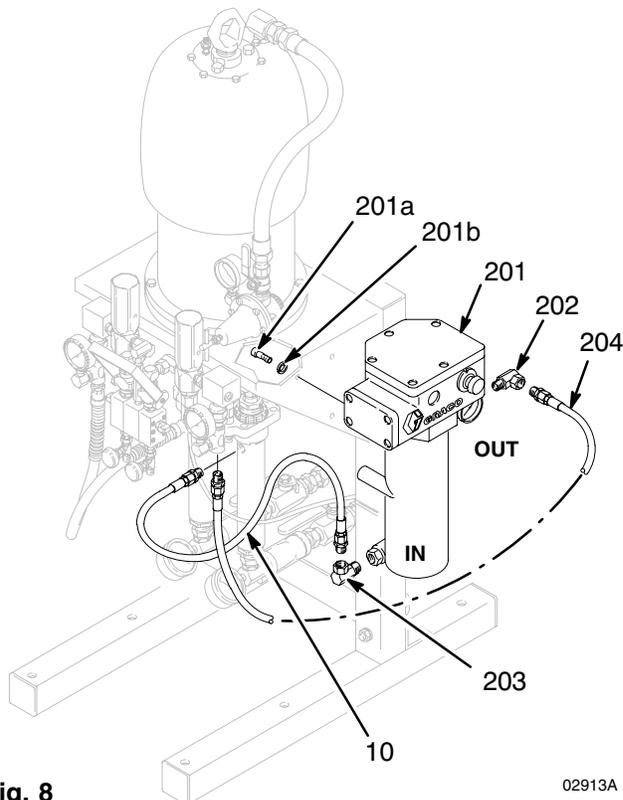
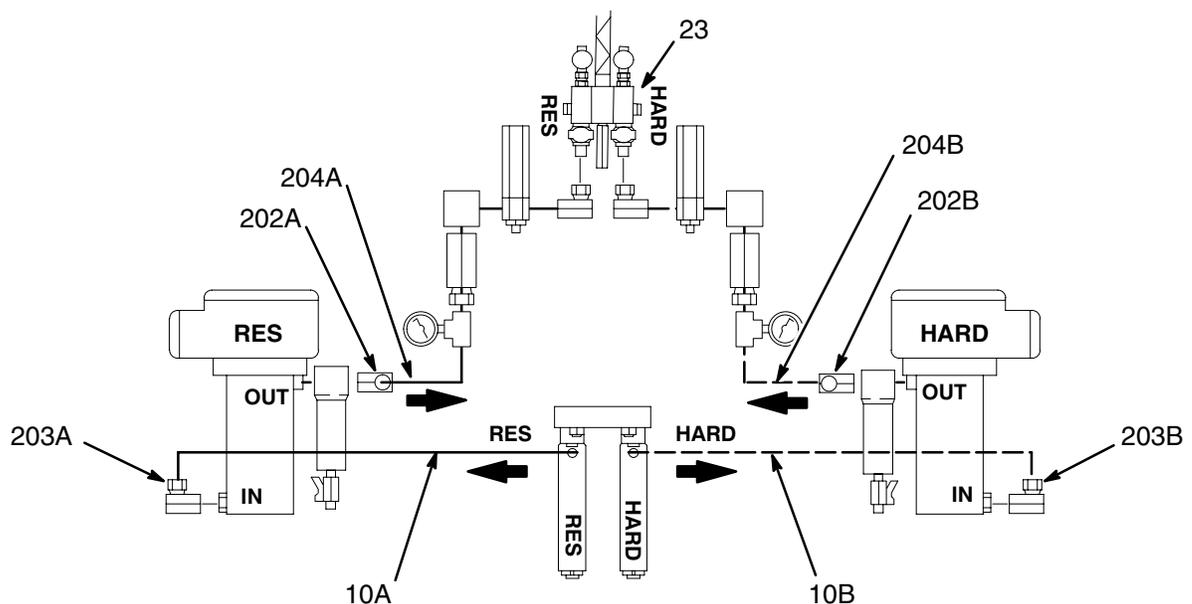

Fig. 8
Fig. 9
1. Mount a heater to each side of the mounting bracket using the three screws (201a) and lock washers (201b) supplied with each heater. See Fig. 8.
2. Connect a swivel union (202) to the outlet of each heater. See Fig. 8.
3. Connect a swivel union (203) to the inlet of each heater. See Fig. 8.
1. Disconnect the existing hardener hose (10B) from the inlet of the mixer manifold (23). See Fig. 8. Connect the free end of the hose to the swivel (203) at the hardener heater inlet. See Fig. 9.
2. Install a new fluid hose (204B) between the hardener heater outlet (202B) and the hardener mixer manifold. See Fig. 8 and 9.